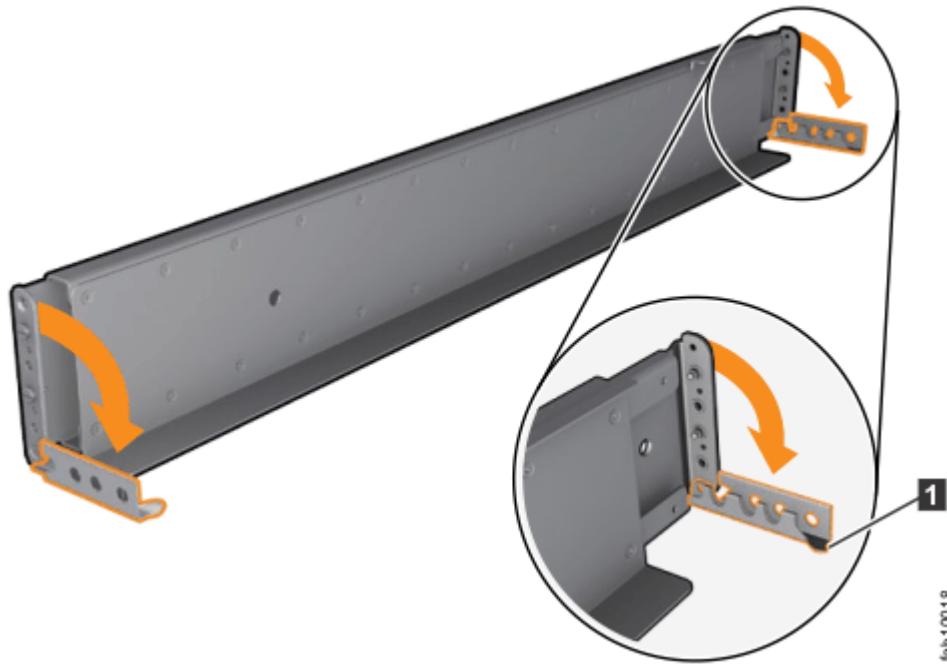

Figure 15. Opening the hinge brackets
6. At each end of the rail, grasp the tab **1** and pull *firmly* to open the hinge bracket (see Figure 15 on page 19).